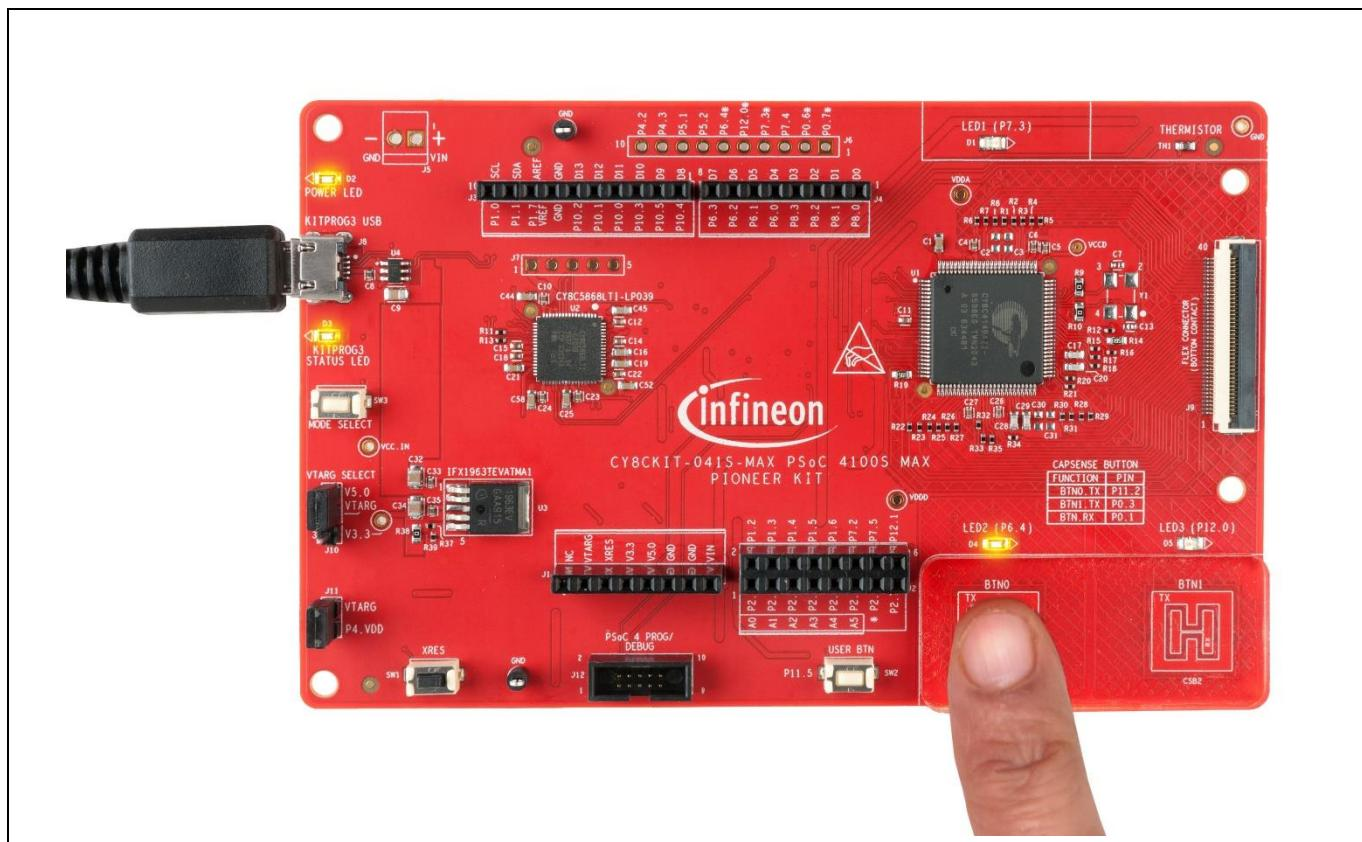

Figure 13 **MSC CAPSENSE™ CSX button tuning project**
2. Touch a CAPSENSE™ button and observe the corresponding LED turn ON as Figure 13 shows.